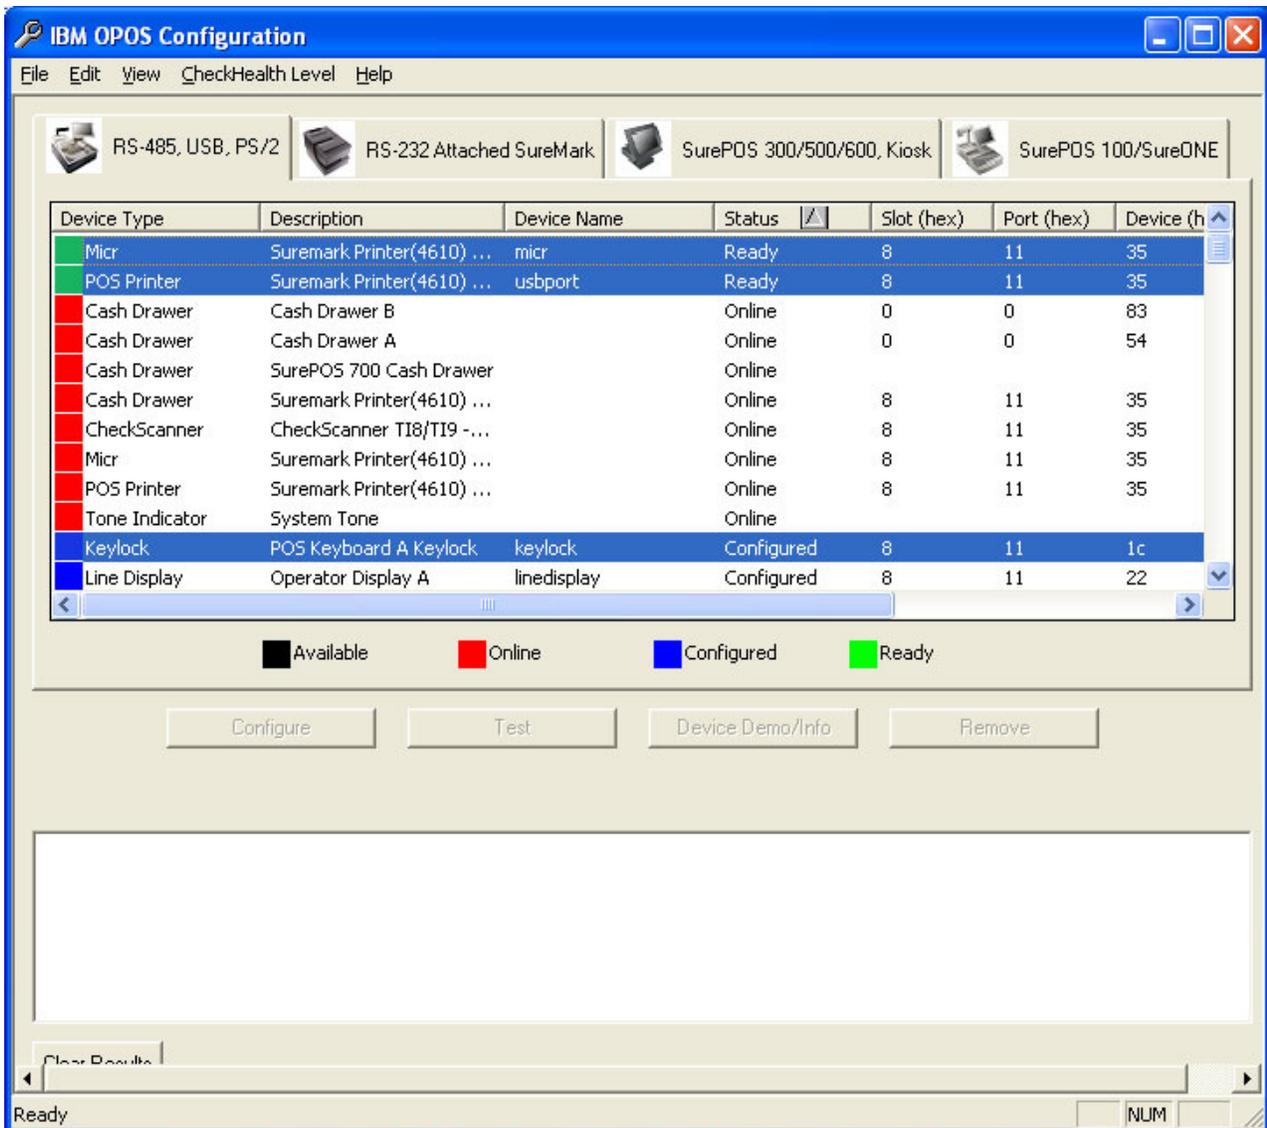

Figure 10. Selecting devices to export
1. Select the devices (on all the tabs) that you want to export. Use the **Shift** and **Ctrl** keys to select more than one. (See Figure 10 on page 26.)